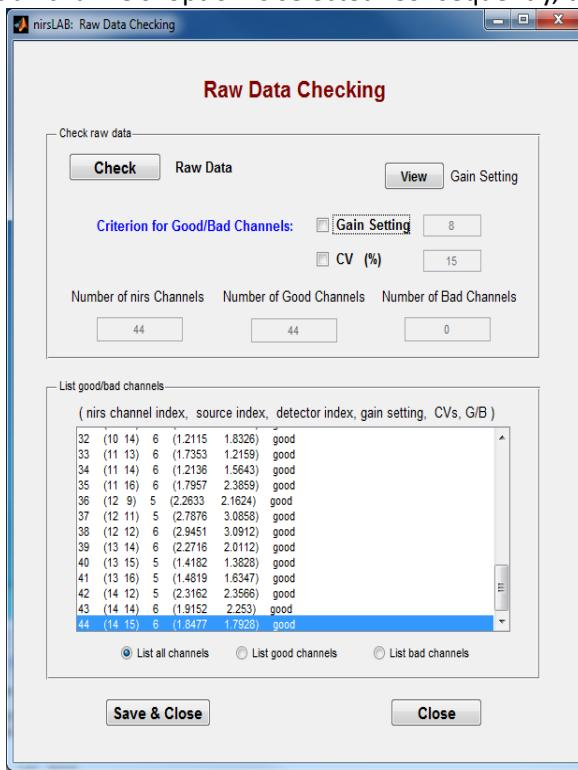
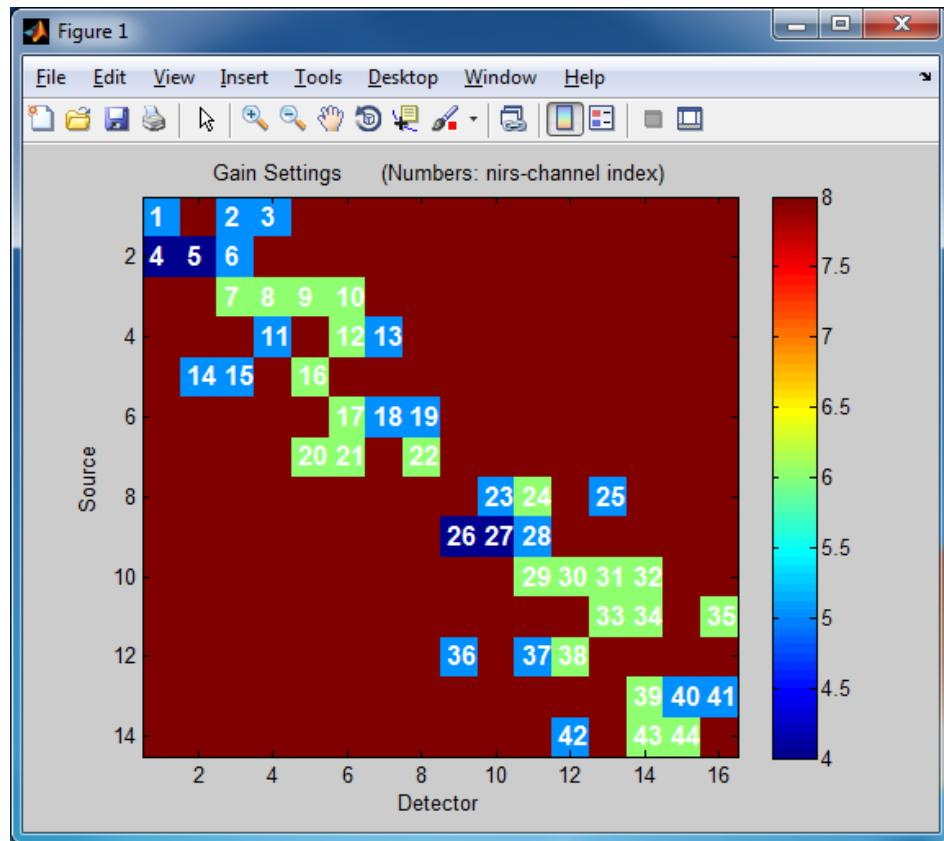
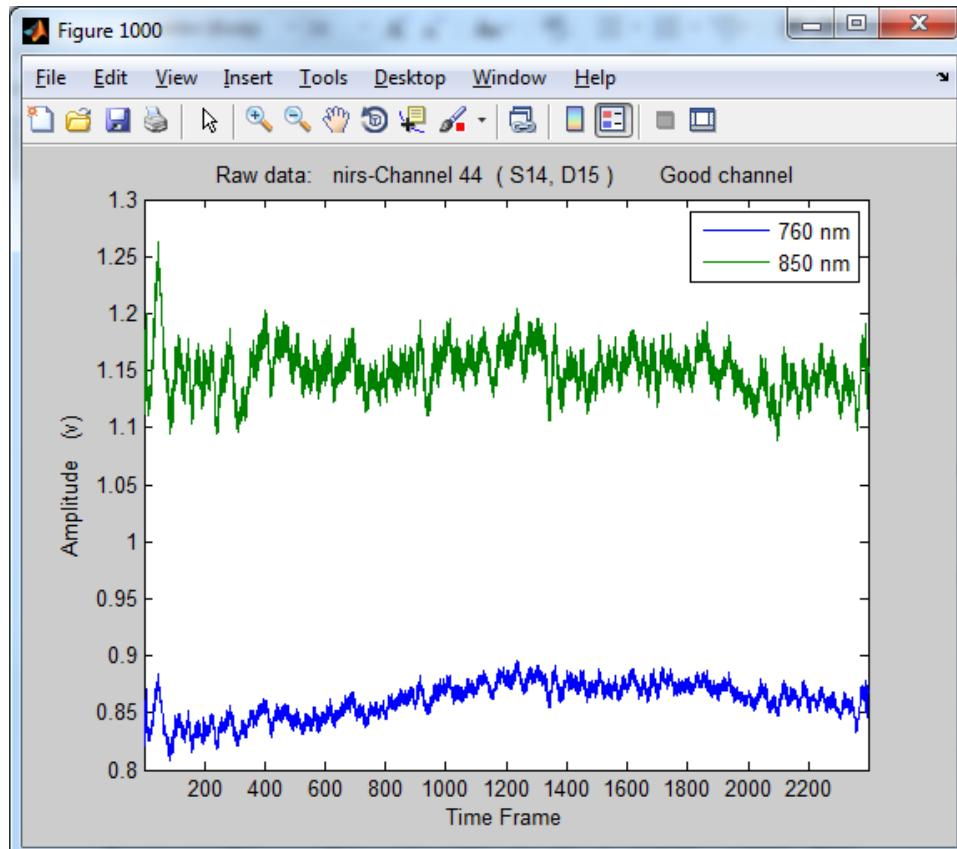

Figure 3-25. *Raw Data Checking* GUI, as it appears upon being launched by pressing the *Check raw data* button
Figure 3-26. Example of a gain settings table, generated by clicking on the *View Gain Setting* button shown in Figure 3-25.
Figure 3-27. Example of a raw-data plot, generated by clicking on the highlighted row of information in Figure 3-25.
Click on the *Check Data Quality* button to launch the *Data Quality Checking* GUI depicted in Figure 3-25. As shown, by default the ‘List all channels’ option is selected. Consequently, the large text window in the
‘List good/bad channels’ module contains a row of information for every channel that is defined in the probeInfo file. By way of illustration, the row that is highlighted in Figure 3-25 is:
If you click on the *View Gain Setting* button in the 'Check raw data' module (Figure 3-25), nirsLAB will generate a graphical display of the gain factors for all channels, as shown in Figure 3-26.
- The ordered pair (1.8477 1.7928) are the values of a metric that we use to quantify the signal-to-noise ratio of the raw data. The metric is called the coefficient of variation (CV). Two CV values are reported because there are two measurement wavelengths, and nirsLAB computes a CV for each one. The mathematical definition for a CV is 100 times the standard deviation divided by the mean value, where the standard deviation and mean are computed from all of the raw-data values in the measurement time series. If you click on the row of information that is highlighted in the 'List good/bad channels' module (Figure 3-25), nirsLAB will generate a graphical display of the raw data for both wavelengths, as shown in Figure 3-27. (For now, we will ignore the second
Figure 3-31: An example of the second pop-up that is generated, along with the raw-data plot shown in Figure 3-27, by clicking on the row of information highlighted in Figure 3-25.